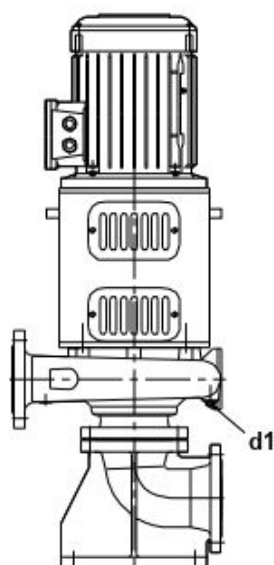

Fig. 6
- Every pump is fitted with connections on the pump casing to drain the pump and on the bearing bracket to evacuate the seal leakage from the stuffing box (**Fig. 6**). If required the pump drain and seal leakage can be piped to a suitable reservoir. The pump draining piping must be fitted with an isolating valve and both must be suitable for the maximum operating pressure of the pump.